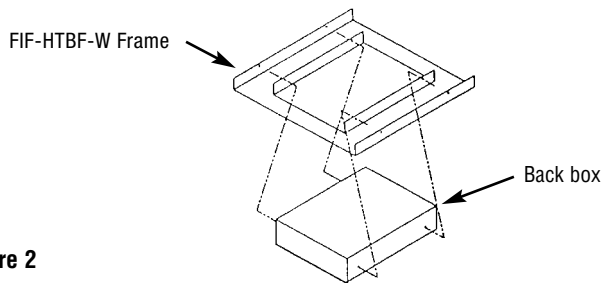

Figure 2
4. Mount the heater backbox to the FIF-HTBF-W kit frame using the four screws provided. Refer to figure 2.